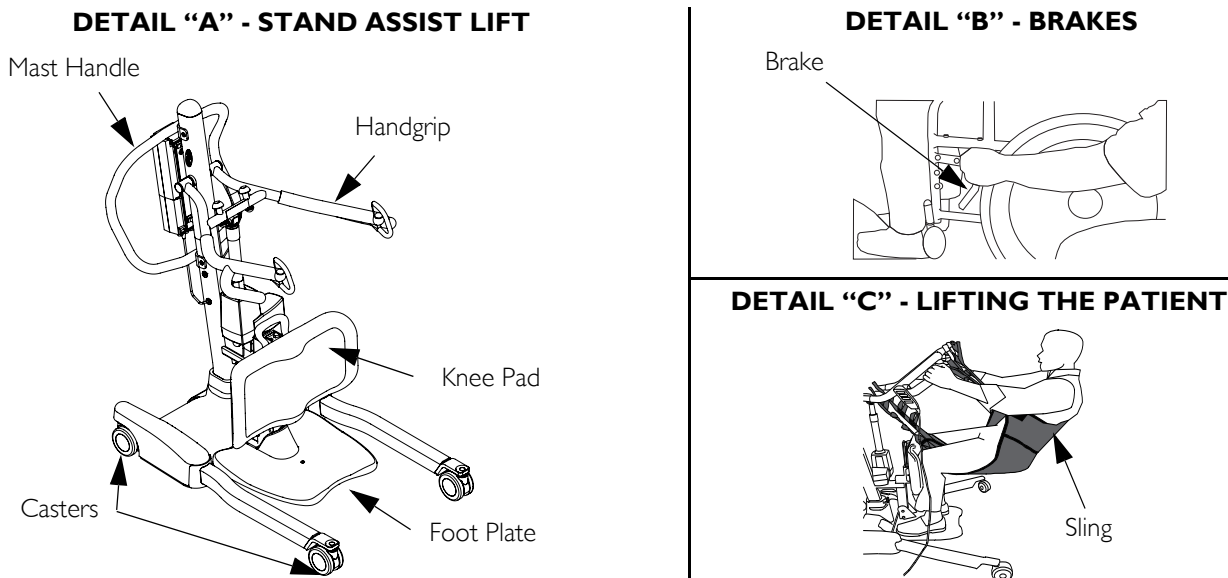

FIGURE 4.2 Lifting the Patient
NOTE: For this procedure, refer to FIGURE 4.2 on page 18.
1. Instruct the patient to hold onto the hand grips on both sides of the stand assist lift (Detail "A" of FIGURE 4.2).
4. If transferring from a wheelchair, engage the brakes on the wheelchair (Detail "B" of FIGURE 4.2).
5. Press the UP arrow button on the hand control to raise the patient above the surface (bed, wheelchair or commode). The patient's weight will be fully supported by the stand assist lift (Detail "C" of FIGURE 4.2).